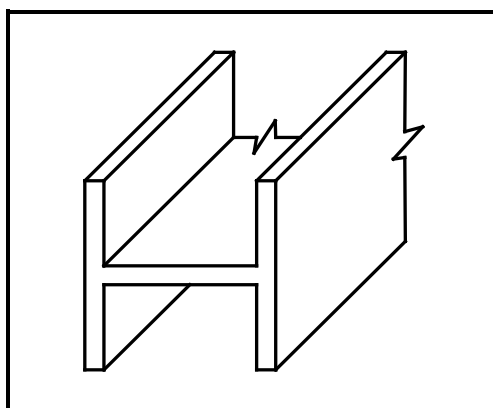

FIGURE 1.8
- 1.8 FIGURE 1.8 below shows a sketch of a steel profile.